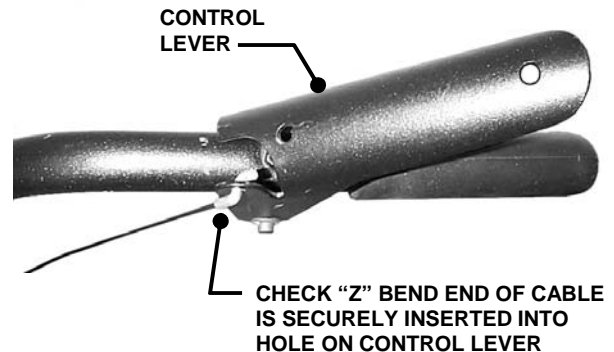

FIGURE 4
**STEP 4: CABLES:** Make sure that the "Z" bend ends of control cables are secured in the holes on the control levers. Make sure cables are not kinked and have freedom of movement when levers are engaged or disengaged. See Figure 4.